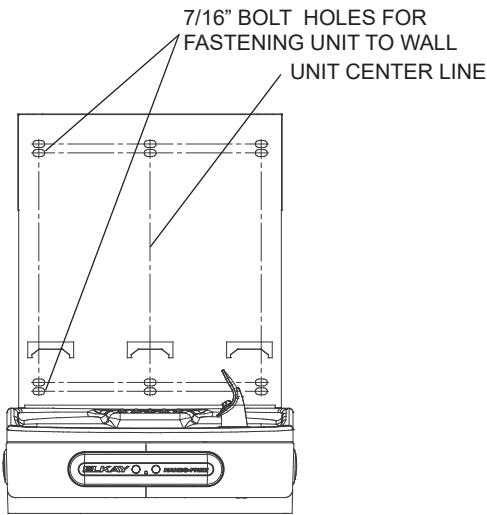

Fig. 10
- 4) Install wall mounting plate to wall using six (6) 7/16" obround mounting holes (mounting bolts not included) (See Fig. 10). Use appropriate fasteners for your wall type.